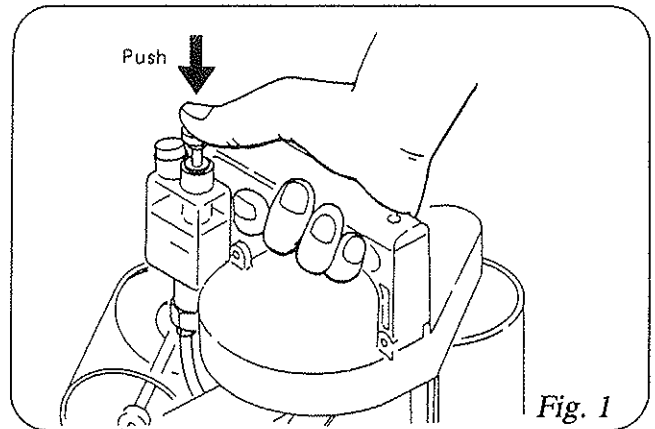

Fig. 1
- Confirm that the machine has been lubricated as per Fig.1 in the manual.
## 1. Oiling (Fig.1)